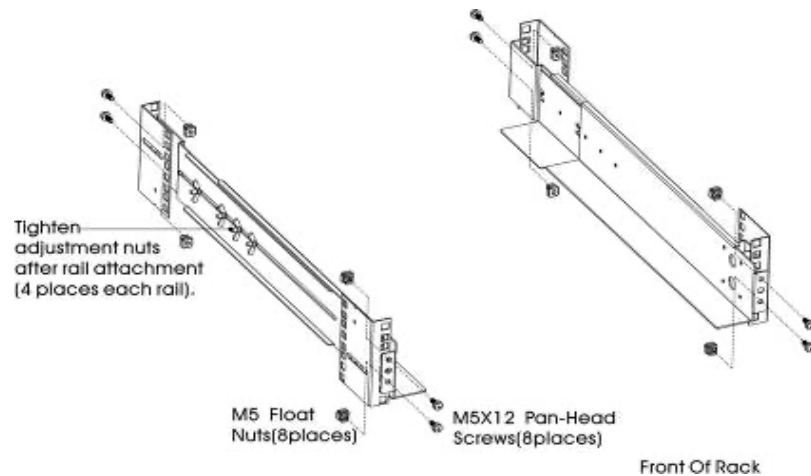

Figure 2 Fixing the Rails
- b) Select the proper size in the rack for positioning the UPS (see Figure 2). The rail